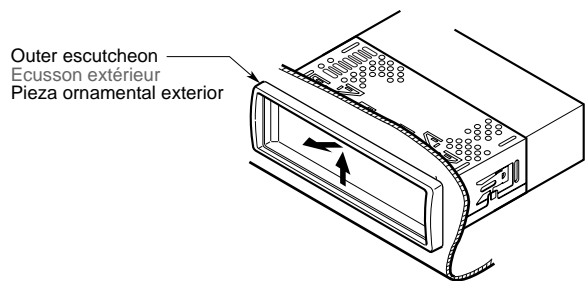

Figure 6 / Figure 6 / Figura 6
1. Secure the mounting brackets to the chassis as shown in Figure 6. Holes are pre-tapped for TOYOTA and NISSAN vehicles; modification, such as drilling new holes, of the mounting brackets may be required for other models.
2. Press the outer escutcheon upward and remove it. (Figure 6)
2. Presser l'écusson extérieur vers le haut et le retirer. (Figure 6)